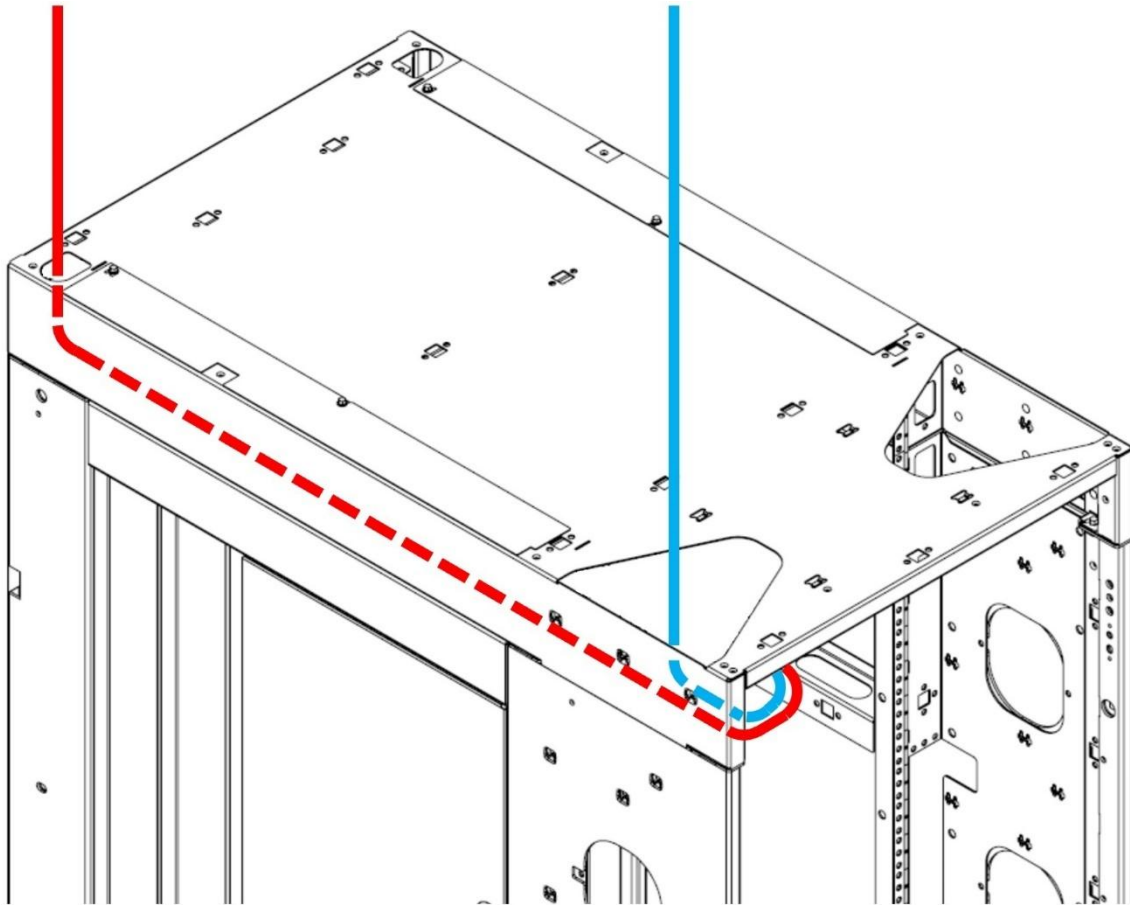

Figure 43: External Ethernet Cable Routing
If a Hardware Management Console (HMC) is ordered, the customer must supply the necessary ethernet cables to connect the remote HMC to the IBM Z system's Support Element (SE). These cables are routed either through the top or bottom of the system depending on the frame configuration. If entering through the top, the cables shall enter through the D-holes at the front of the frame (red line in Figure 43) or through the large cutouts at the rear of the frame (blue line in Figure 43).